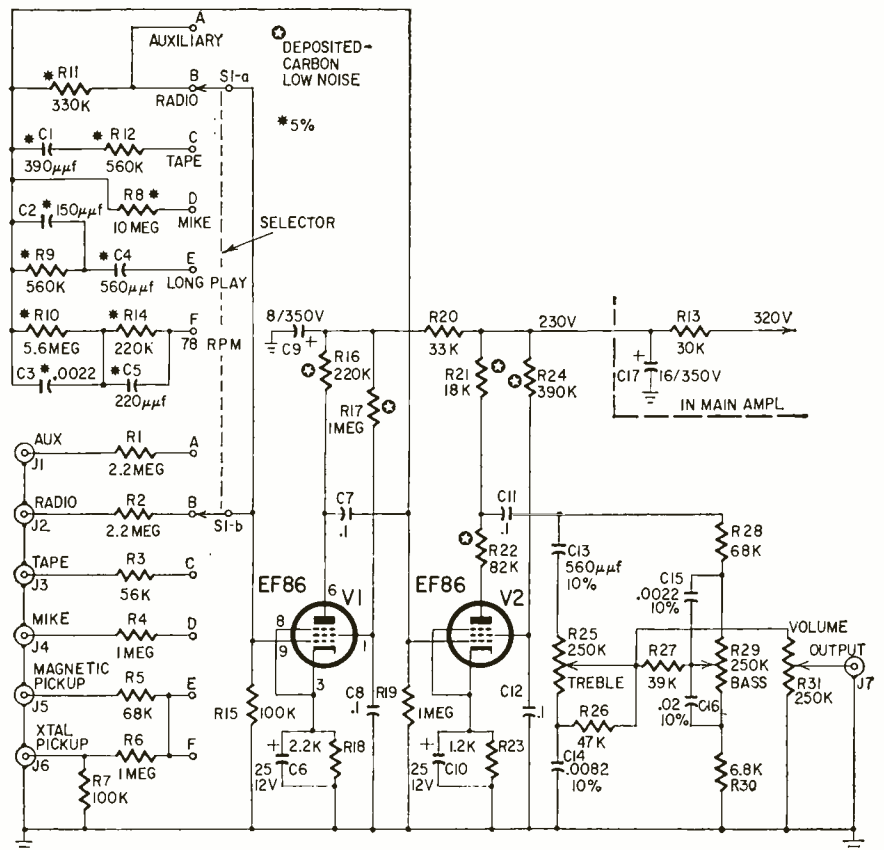

Fig. 1—Circuit of the custom preamp.
**Auxiliary input:** The auxiliary channel is identical with the tuner input channel. This input, with the values shown in Fig. 1, can therefore be used for high-output crystal pickups or tape recorders. In addition, the channel can be easily adapted for many other applications. For instance, if series resistor R1 is reduced to 1 megohm, the auxiliary input will be suitable for crystal pickups which have low outputs.